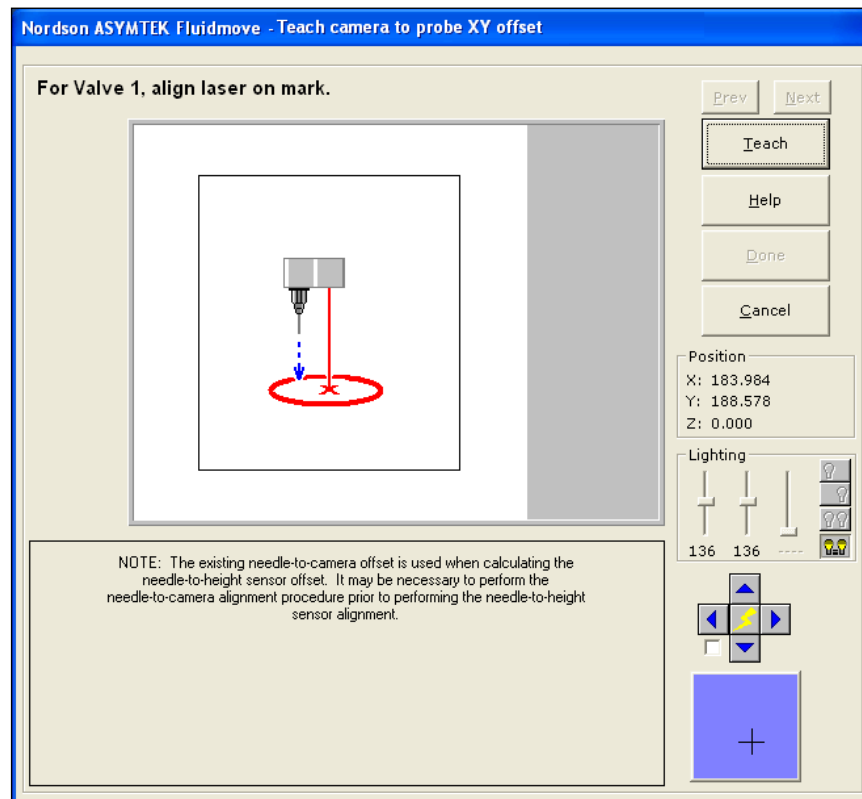

Figure 4-8 Camera to Height Sense Probe or Laser XY Offset
*To teach camera to height sensor XY offset (Figure 4-8):*